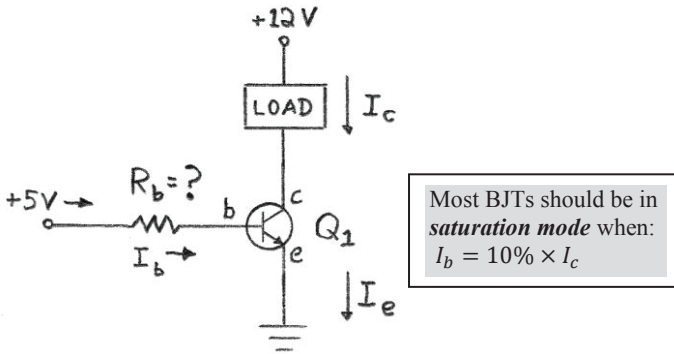

Figure 5-15. Worked example for the **10% Current Rule**.
**Question:** The load in Figure 5-15 has an operating voltage of 12V, and a measured load resistance of  $500\Omega$ . What base resistor is required to put the transistor into saturation mode, using the 10% rule?